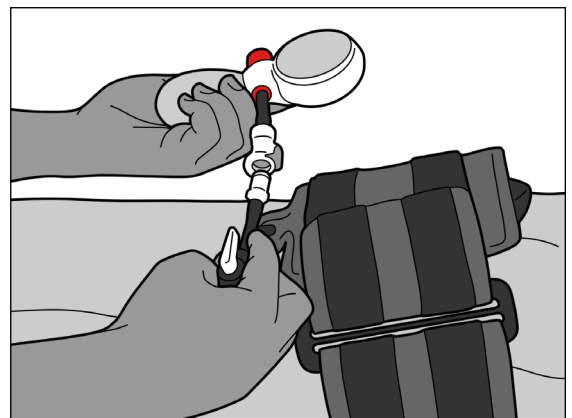

Fig. 7
5. Engage the “Quick Disconnect Fitting” of the pump to the “Quick Disconnect Fitting” of the bladder (Fig. 7).